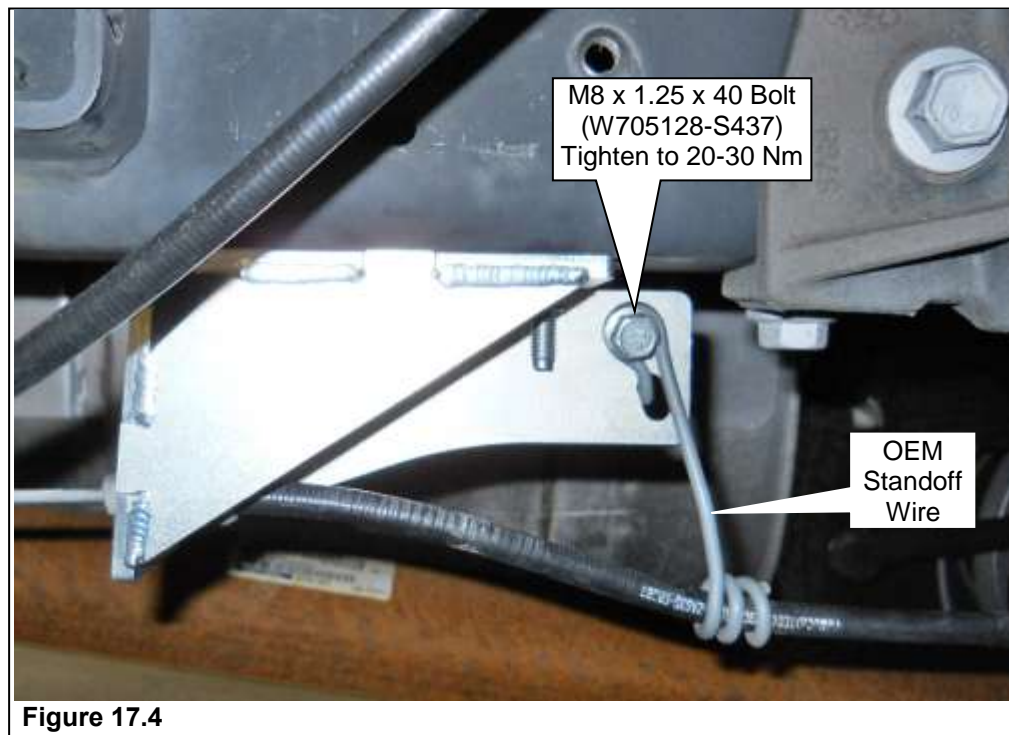

Figure 17.4
5. Position the brake cable standoff wire to the bracket. Install the retainer bolt and tighten to specification. **Figure 17.4.**